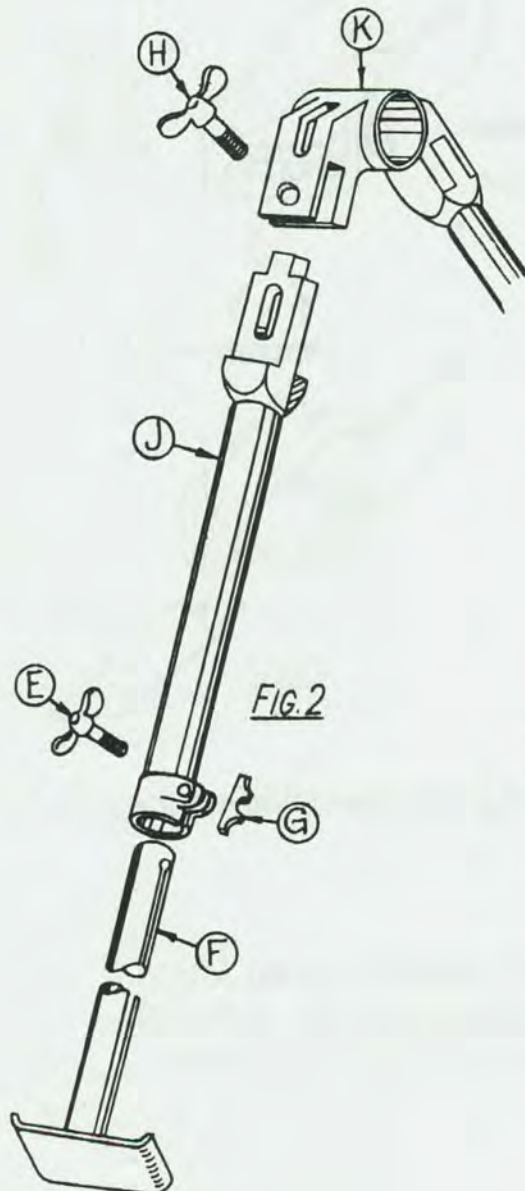

FIG. 2
- 5 REMOVE SCREW (E). SLIDE OUT LEG (F) AND REMOVE KEY (G), FIG. 2. REMOVE SCREW (H) AND PULL TUBE (J) FROM BODY (K).